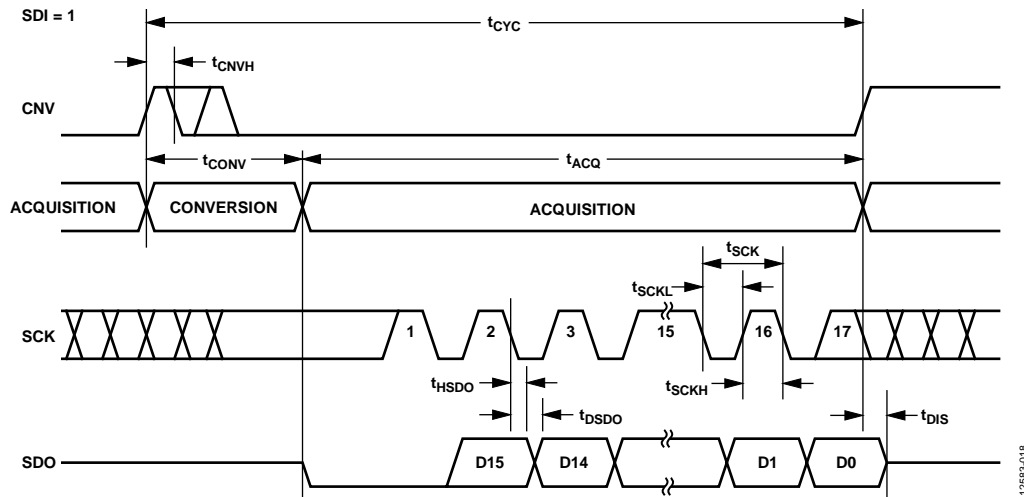
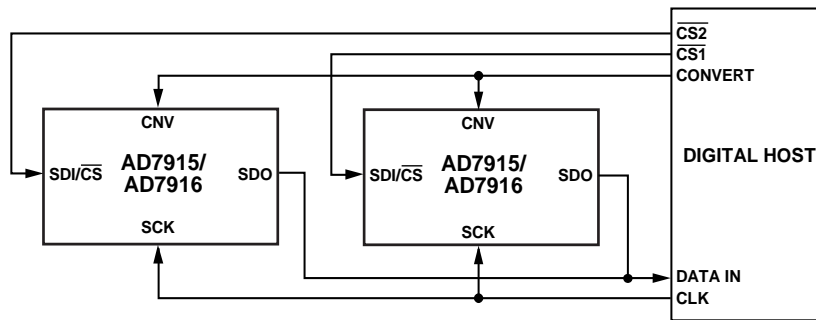
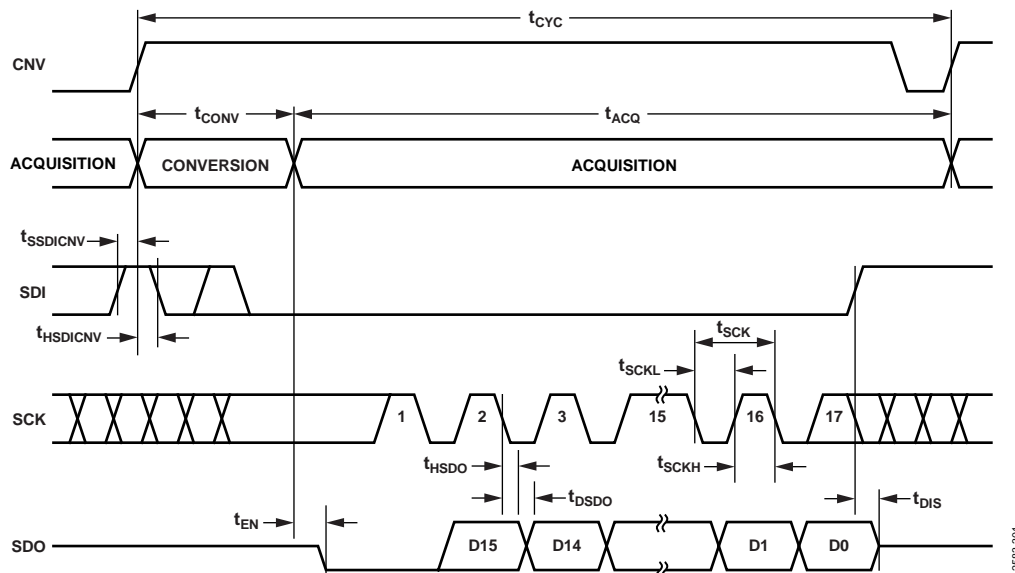
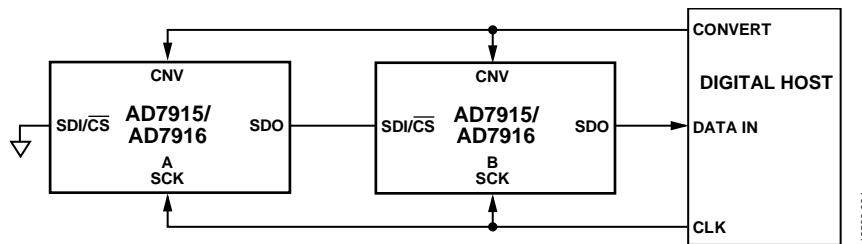

Figure 37. 3-Wire  $\overline{CS}$  Mode with Busy Indicator Serial Interface Timing (SDI High)
Figure 38. CS Mode Without Busy Indicator, 4-Wire Connection Diagram
Figure 41. 4-Wire  $\overline{\text{CS}}$  Mode with Busy Indicator Serial Interface Timing
Figure 42. Chain Mode Without Busy Indicator Connection Diagram
- in  $\overline{\text{CS}}$  mode if CNV or SDI is low when the ADC conversion ends (see Figure 38 and Figure 42).
The connection diagram is shown in Figure 37, and the corresponding timing is given in Figure 38.
The connection diagram is shown in Figure 41, and the corresponding timing is given in Figure 42.